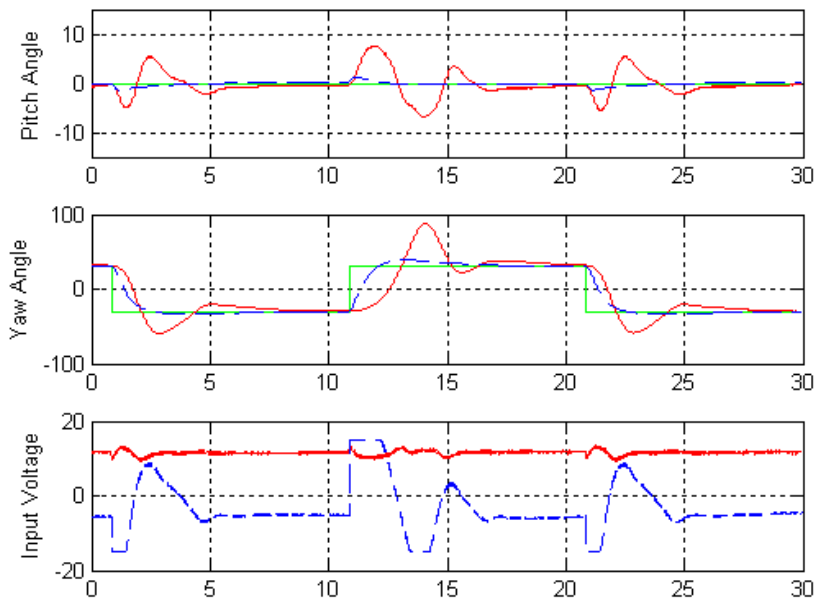

Figure 39: Closed-loop LQR+I response under yaw reference step.
20. Set the *Amplitude: Pitch (deg)* to 0 and *Amplitude: Yaw (deg)* to 50 observe the LQR+I response under a desired yaw step. The obtained response should be similar to Figure 39. There is no steady-state error but the controller saturates the yaw amplifier due to the large step reference.